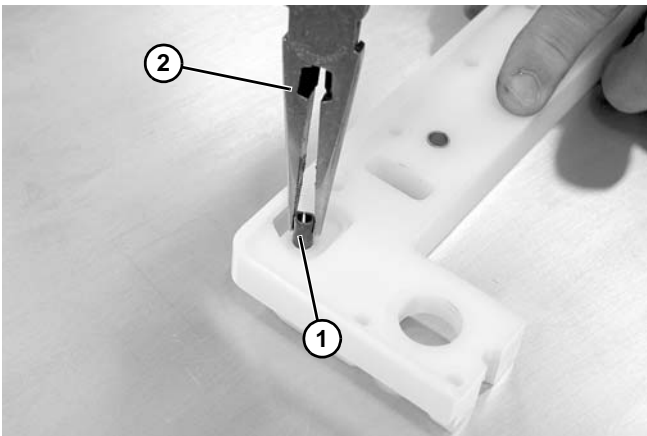

Figure 119
7. Remove roll pin (Figure 119, item 1) with needle nose pliers (Figure 119, item 2).